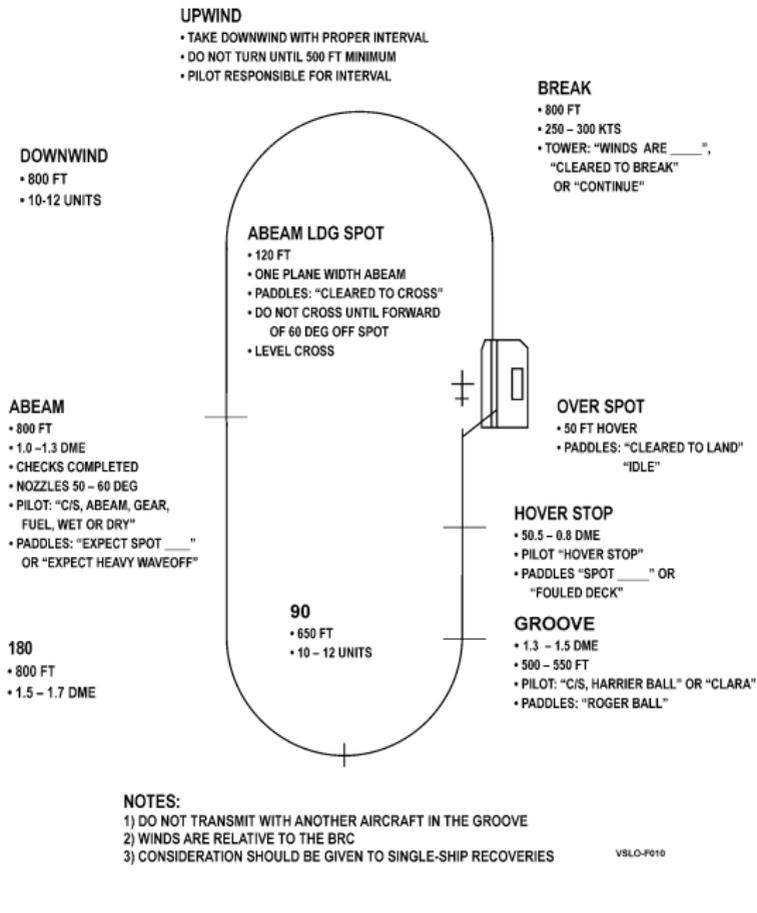

Figure 6-5. Night Case 1 Pattern (Aided)
- The Night Case 1 pattern is depicted in Figure 6-5.